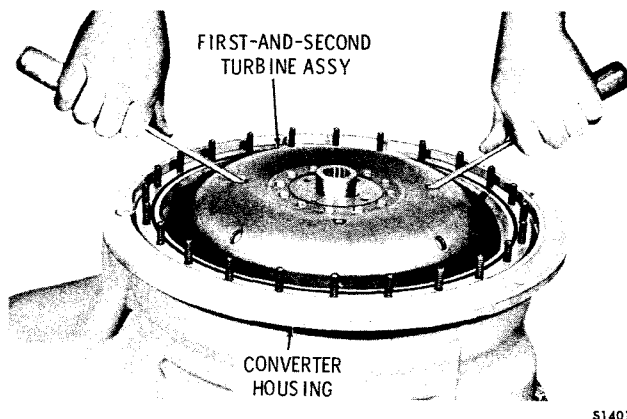

Fig. 5-9. Removing first-and-second turbine assembly
(1) Using two screwdrivers, remove the first-and-second turbine assembly (fig. 5-9). Do not disassemble this unit unless inspection or parts replacement is necessary. If necessary, refer to paragraph 6-4 for rebuild of turbine assembly.